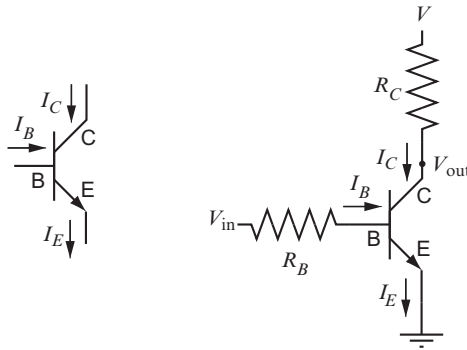

Figure B.12
Figure B.12 shows the circuit symbol for an NPN BJT. It has three connections: the collector (C), base (B), and emitter (E). Current flows into the collector and base, and the sum of those currents flows out of the emitter,  $I_E = I_C + I_B$ . The voltage drop from the base to the emitter is denoted  $V_{BE}$  and the voltage drop from the collector to the emitter is written  $V_{CE}$ . In normal usage,  $I_C$ ,  $I_B$ ,  $I_E$ , and  $V_{CE}$  are all nonnegative.
- p0270 Figure B.12 shows an NPN BJT in a *common emitter* circuit, so called because the emitter is attached to ground (“common”). We can determine the transistor’s operating mode as a function of  $V_{in}$ :